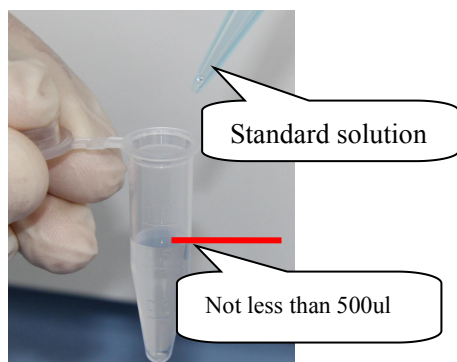
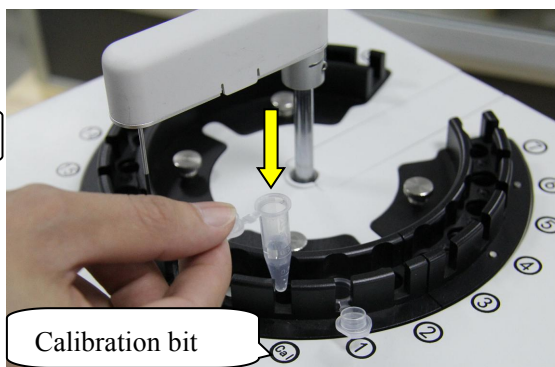

Fig.14
Fig.15
**Place the standard solution** Take out the M-100 analyzer standard solution, use a pipette to suck the standard solution (not less than 500ul) and add it to the sample cup (Fig. 14), and put the standard solution into the calibration position (Fig. 15).